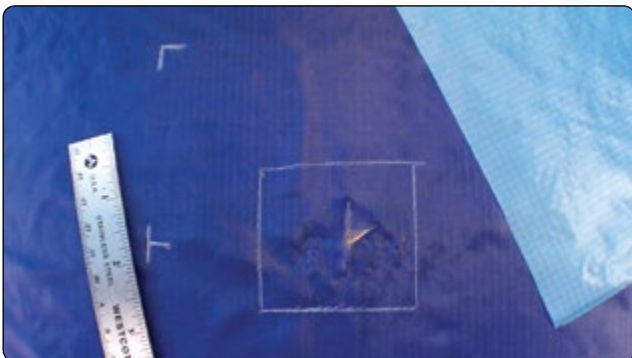

Figure 7-16. Patch layout.
8. Measure half the patch size or 3 inches up the left border ripstop line from the center line and mark the top border and left border (this will look like an upside down L). [Figure 7-16]